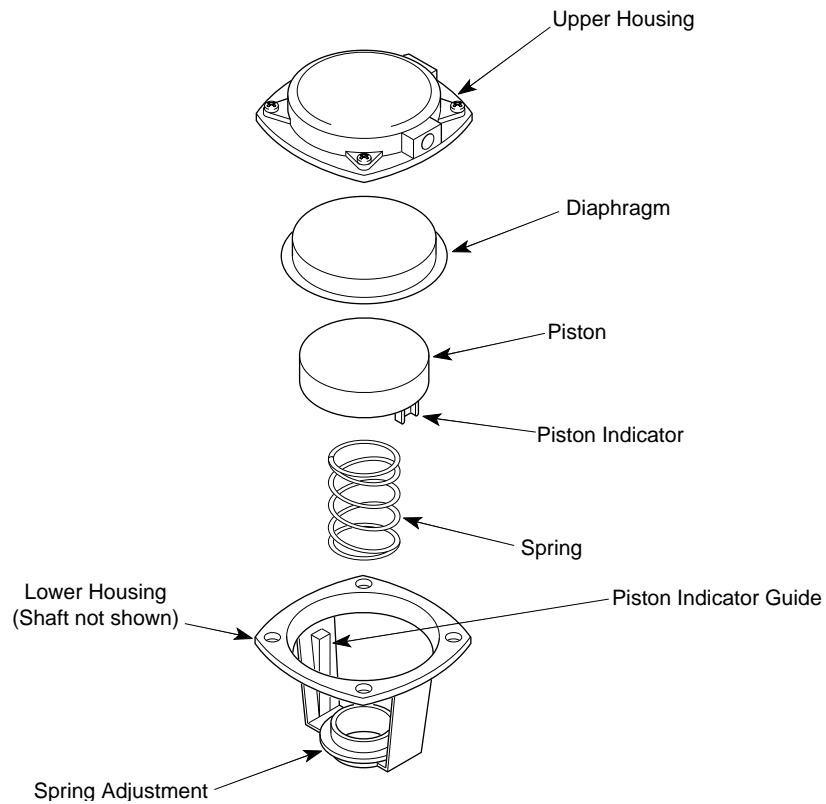

Figure-3 Field Repair of the Actuator.
2. Remove the four upper housing mounting screws, and remove the upper housing (see Figure-3).
3. Remove the four upper housing mounting screws, and remove the upper housing and the diaphragm (see Figure-3).